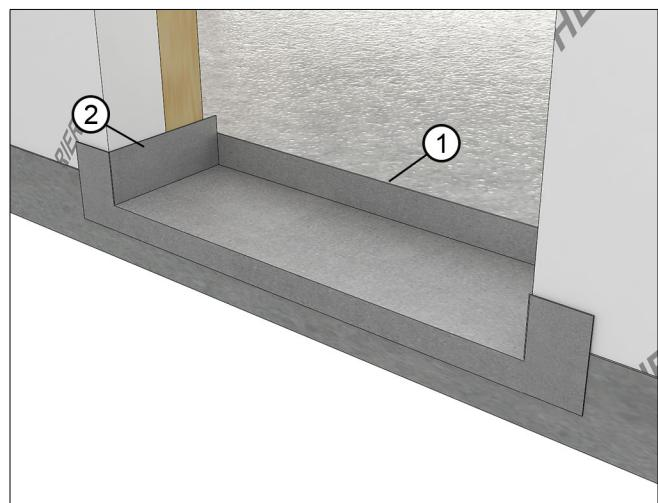

Figure 10 Stacked Panning for Performance or Flush sill shown.
3. All pannings for stacked configurations must have an end dam as high as the rear sill liner and sides that come up at least 4"(102). See Figure 10.